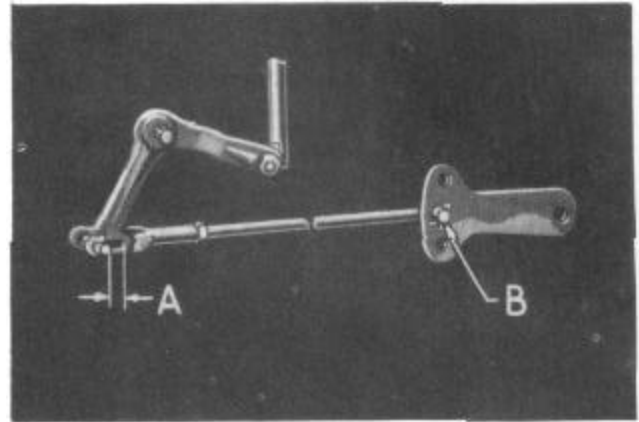

Figure 19--Throttle Rod Clevis Adjustment
Adjust the throttle rod at point (B), Figure 19, as follows:
Adjust the clevis at (A), Figure 19, so that all lost motion is taken up. The adjustment should be at a point where any additional pedal travel will increase the engine speed. Remove the wedge.